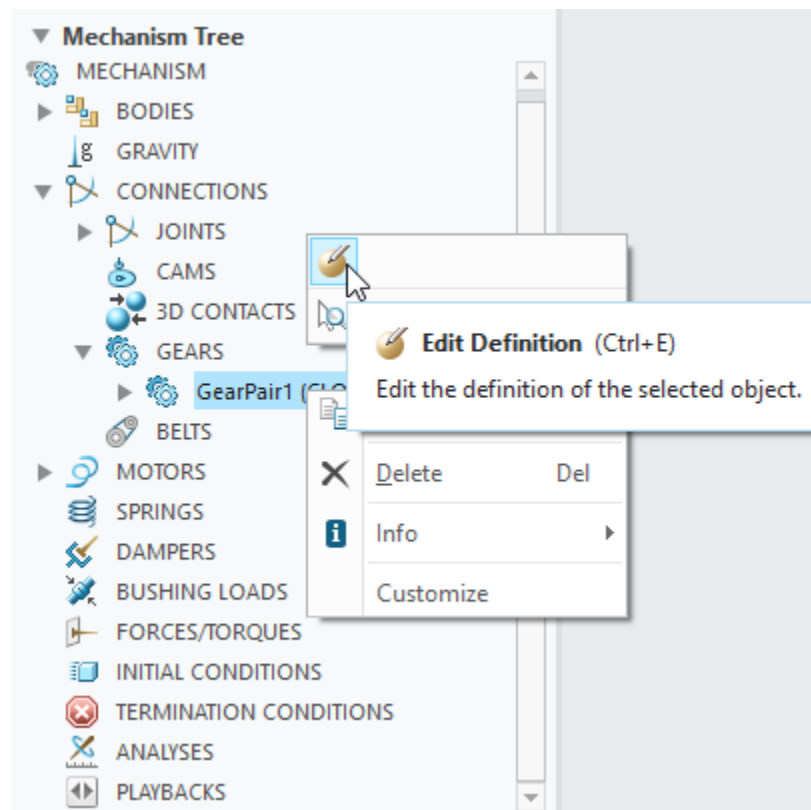

Figure 26: Mechanism Tree and selecting Edit Definition for GearPair.
When ready, accept feature (OK). You can use **Drag Components** (🖱️) to test your gear. If changes are needed (like changing gearing direction, **Gear2** and ↗️), GearPair connection can be found in Mechanism Tree (Figure 26).